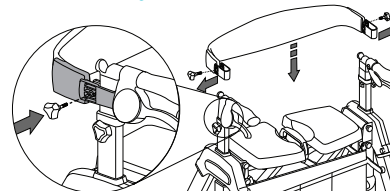

FIGURE 2
2. Unscrew knobs from back strap and snap onto handle arms, retighten as shown in FIGURE 2.